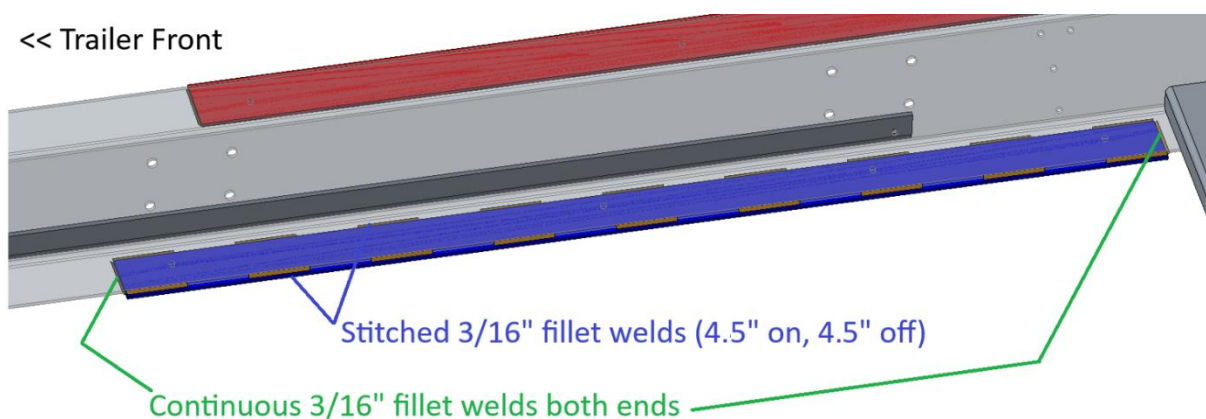

Figure 5: Completed Type 2 Doubler plate installation
6. Figure 5 shows the completed installation.